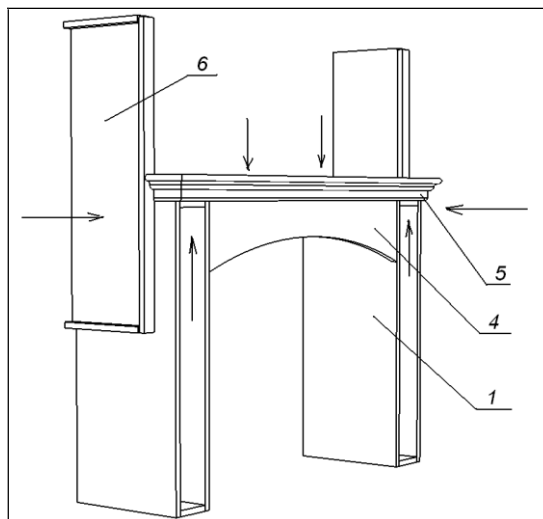

Fig. 48
- fix the mounting angle brackets on the element (2) for the decorative plate fixation (4), fix the spacers (6) using screws 4x30 to the side panels of element (1), connect the cornice (5) through upper plates of the elements (1) with screws 4x35, then connect the decorative plate (4) (Fig. 48)